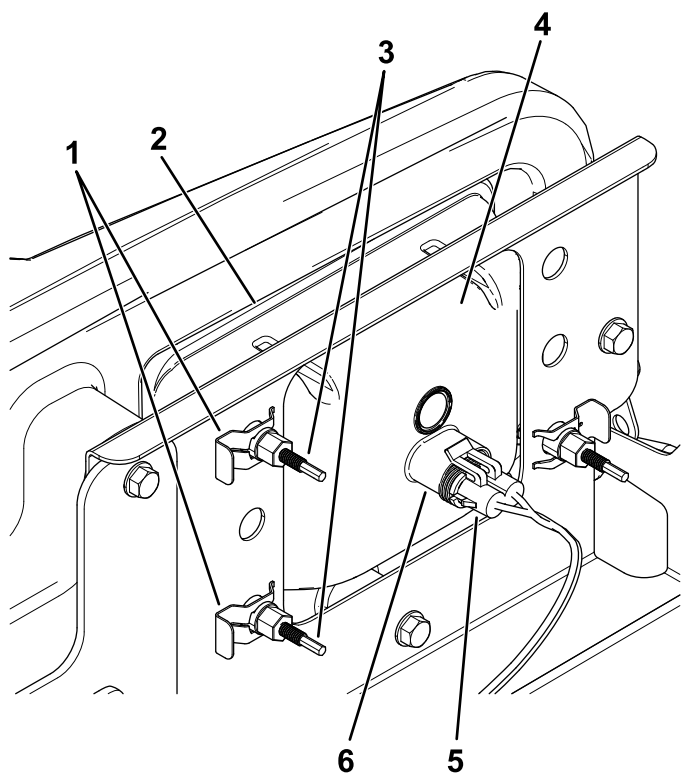

Figure 47
3. Disconnect the electrical connector for the harness from the connector of the lamp assembly (Figure 47).
- Remove the speed clips that secure the headlight to the headlight bracket (Figure 47).
- Remove the headlight assembly by moving it forward through the opening in the front bumper (Figure 47).
- Install the new headlight through the opening in the bumper (Figure 47).
- Connect the electrical connector for the harness to the connector of the lamp assembly (Figure 47).
- At the back of the headlight assembly, rotate adjustment screws (Figure 47) to pivot the headlight assembly and align the position of the cast beam.